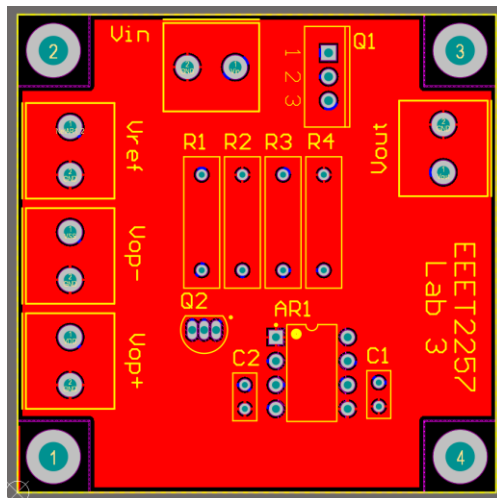

Figure 22: Polygon Pours for a ground plane.
- After implementing the polygon pour, the layout should look like in Figure 22. In case you need to modify the layout, to update the polygon pour, it needs to be repoured. It can be done by selecting the polygon → right-click → **Polygon Actions** → **Repour All**.